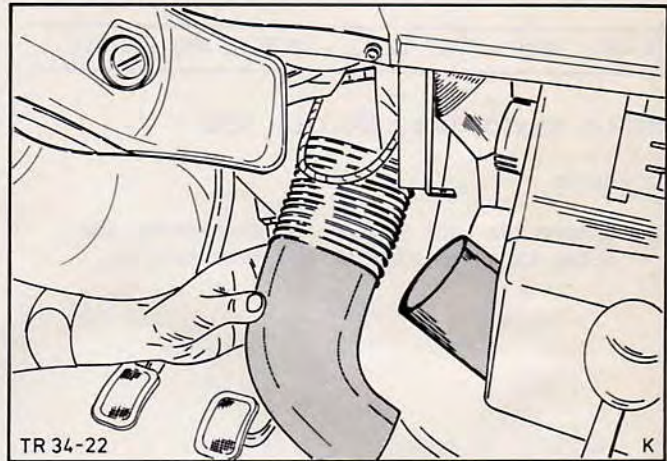

Fig.31. Detach demister hose.
1. Detach demister air hose from the heater casing and the demister nozzle and withdraw hose, Fig.31.